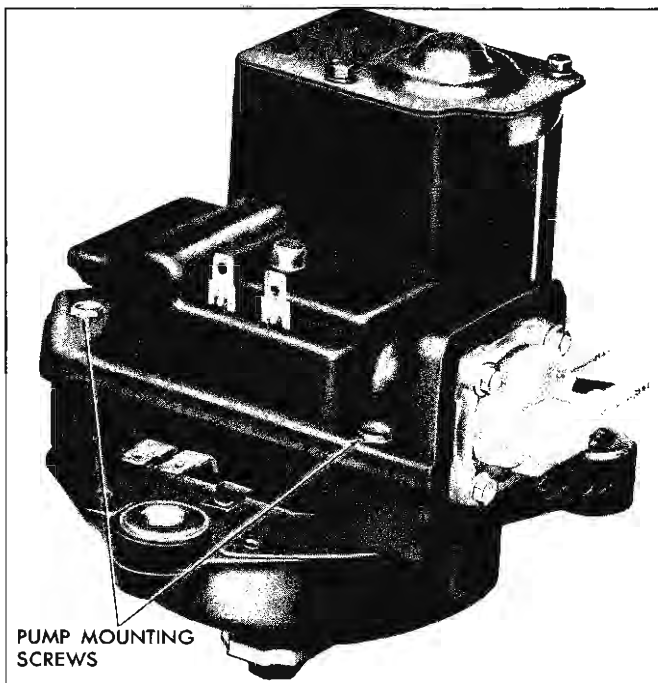

Fig. 51—Washer Pump Attaching Screws
1. For wipers equipped with a washer pump, remove the two washer pump mounting screws (fig. 51) and lift pump off washer.
2. Remove the two pump-to-wiper retaining screws, remove washer from wiper (fig. 51).